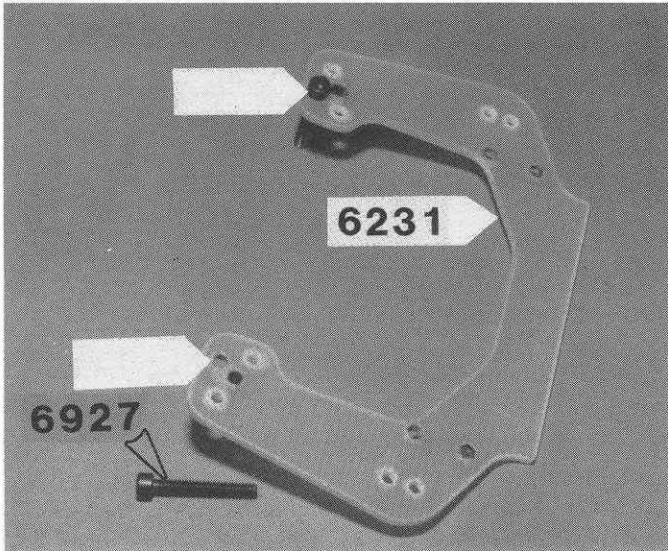

Fig. 14
□ **Fig. 14** Take the #6231 front shock strut out of the same bag. In bag #6-10 take out two #6927 4/40x 3/4" SHCS screws and install them in the shock strut in the locations shown. **NOTE:** Your shock strut may have six holes, if so, use center hole on top row.